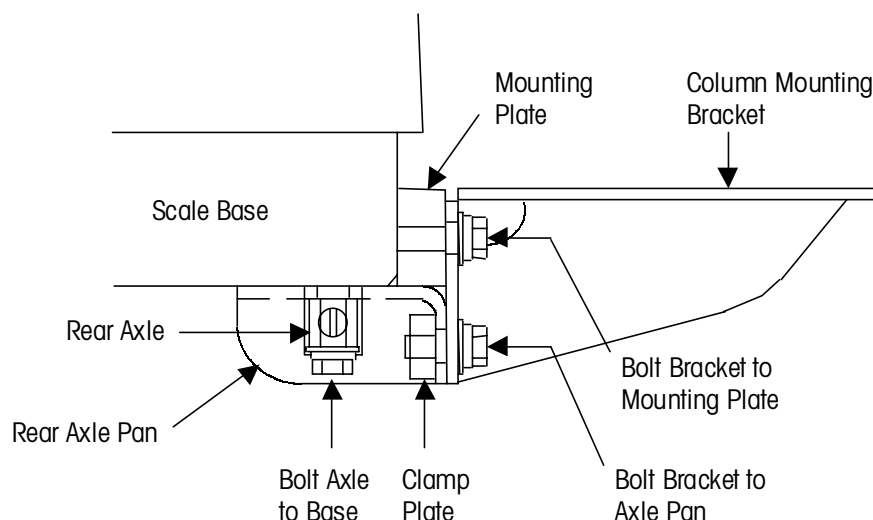

Figure 2-3: Side View of Rear Axle Installation (shown right side up)
3. Position the rear axle pan on the bottom of the scale base so that its 1/2-inch flange is flush with the mounting plate at the rear of the base (see Figure 2-3).
7. Position the column mounting bracket so that its bolt holes line up with those on the mounting plate and rear axle pan (see Figure 2-3).